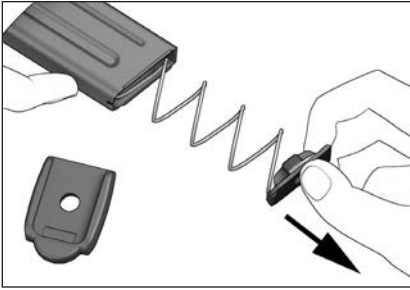

Figure 24
- Gradually allow the locking plate and magazine spring to expand out of the magazine housing (see Figure 24).